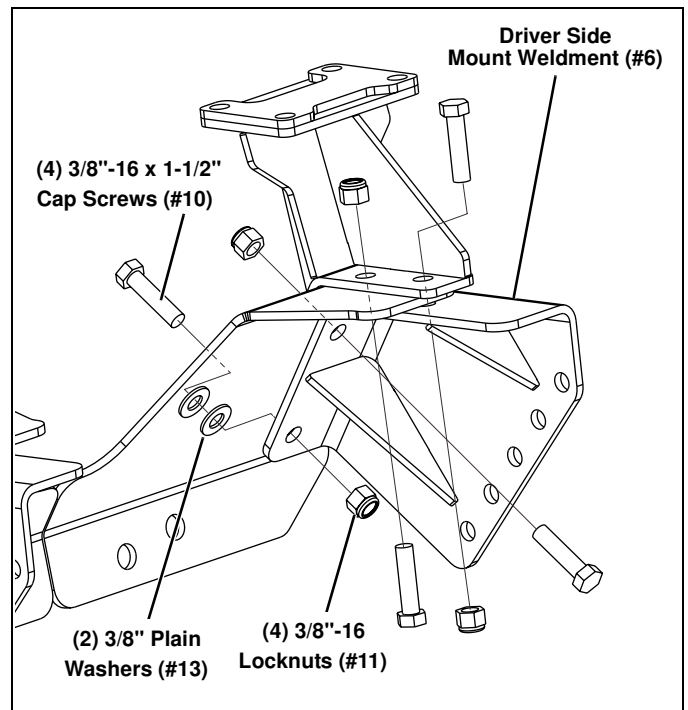

Figure 6
- Set the Driver Side Mount Weldment (#6) tight against the Brush Guard, with all the holes aligned. Insert the hardware as shown using (4) 3/8"-16 x 1-1/2" Cap Screws (#10), (4) 3/8"-16 Locknuts (#11), and (2) 3/8" Plain Washers (#13). Start with the furthest back cap screw and work your forward. (See Figure 6.)